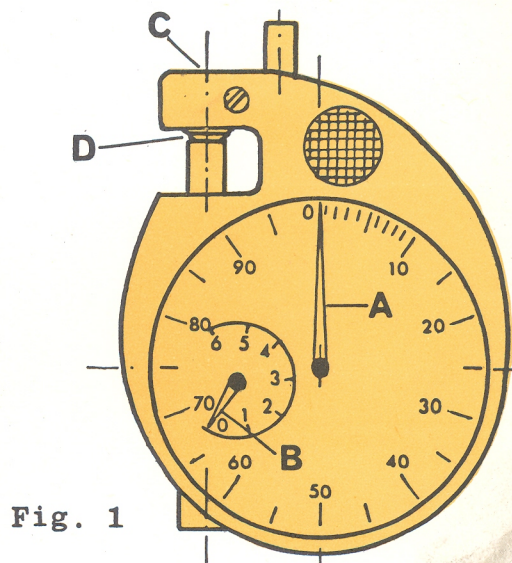

Fig. 1
- 1 Check that dial gauge is properly set to zero. In the at-rest position the reading of the two needles "A" and "B" should be zero (see fig. 1).